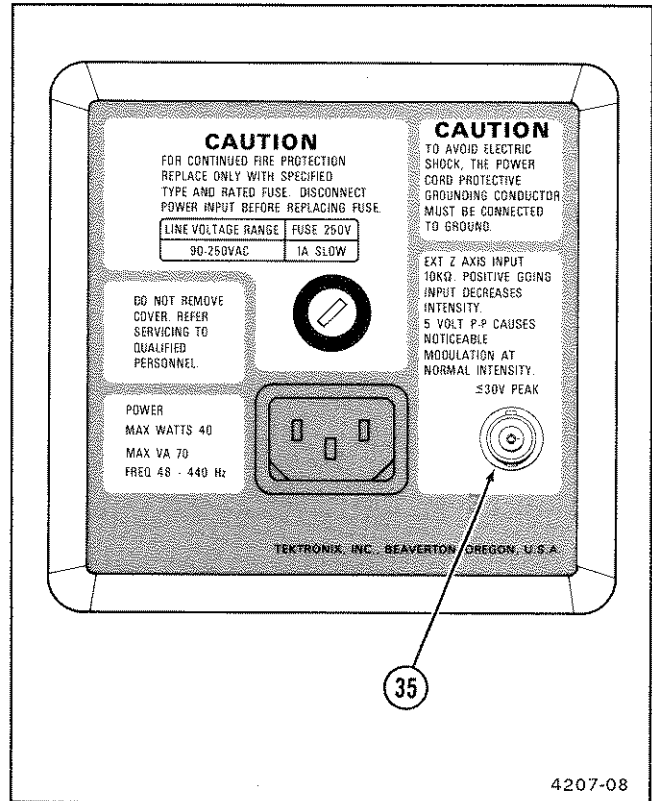

Figure 2-7. Rear-panel connector.
Refer to Figure 2-7 for location of item 35.
- ③⑤ **EXT Z-AXIS Connector**—Provides a means of connecting external signals to the Z-axis amplifier to intensity modulate the crt display. Applied signals do not affect display waveshape. Signals with fast rise times and fall times provide the most abrupt intensity change, and a 5-V p-p signal will produce noticeable modulation. The Z-axis signals must be time-related to the display to obtain a stable presentation on the crt.